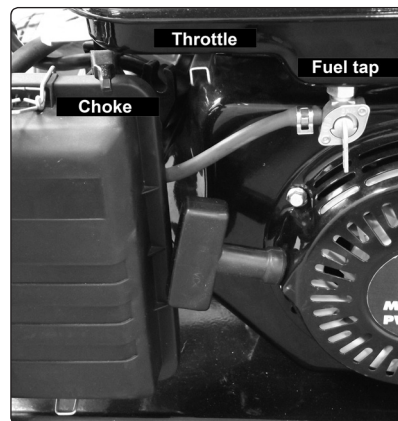

fig.8
- 6.1.6. Fig.8 shows the fuel tap in the OFF position. Push the fuel tap lever to the right to the ON position.
- 6.1.7. If starting the engine from cold move the choke lever fully to the left. Fig.8 shows the lever in the OFF position.
- 6.1.8. Fig.8 shows the throttle lever in the slow running position. Move the throttle lever to the left by a small amount.
- 8.2.2. Check the oil level by seating the dipstick into the hole without screwing it in. See fig.8 above. If there is no oil on the dipstick when it is removed the level is too low and should be topped up immediately with an SAE10W - 40 oil.